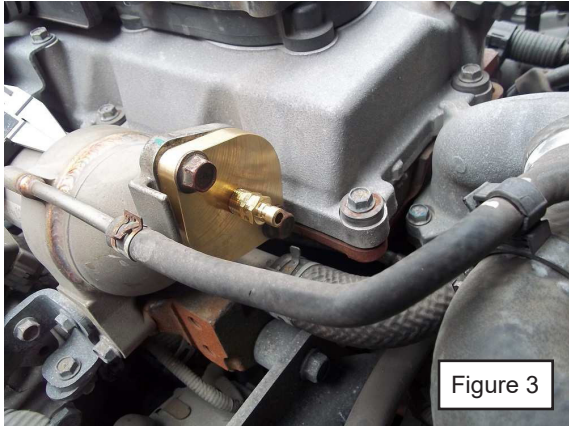
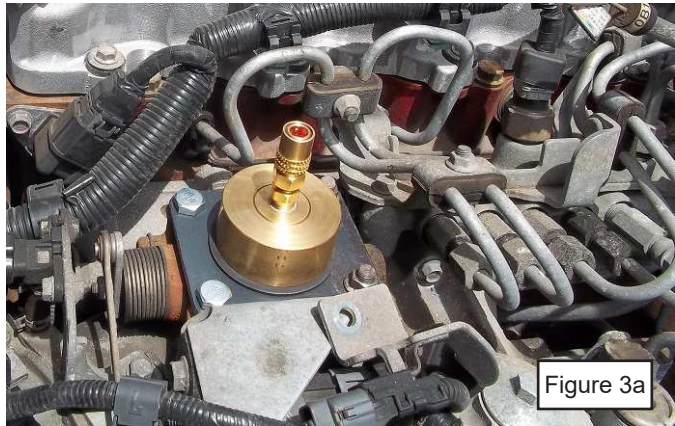

Figure 3
Figure 3a
5. Install EGR Intake Adapter(EEDF400-692) (see Figure 3) using existing bolts and EGR Exhaust Adapter (EEDF400-627) using the existing nuts and the two bolts provided (see Figure 3a).